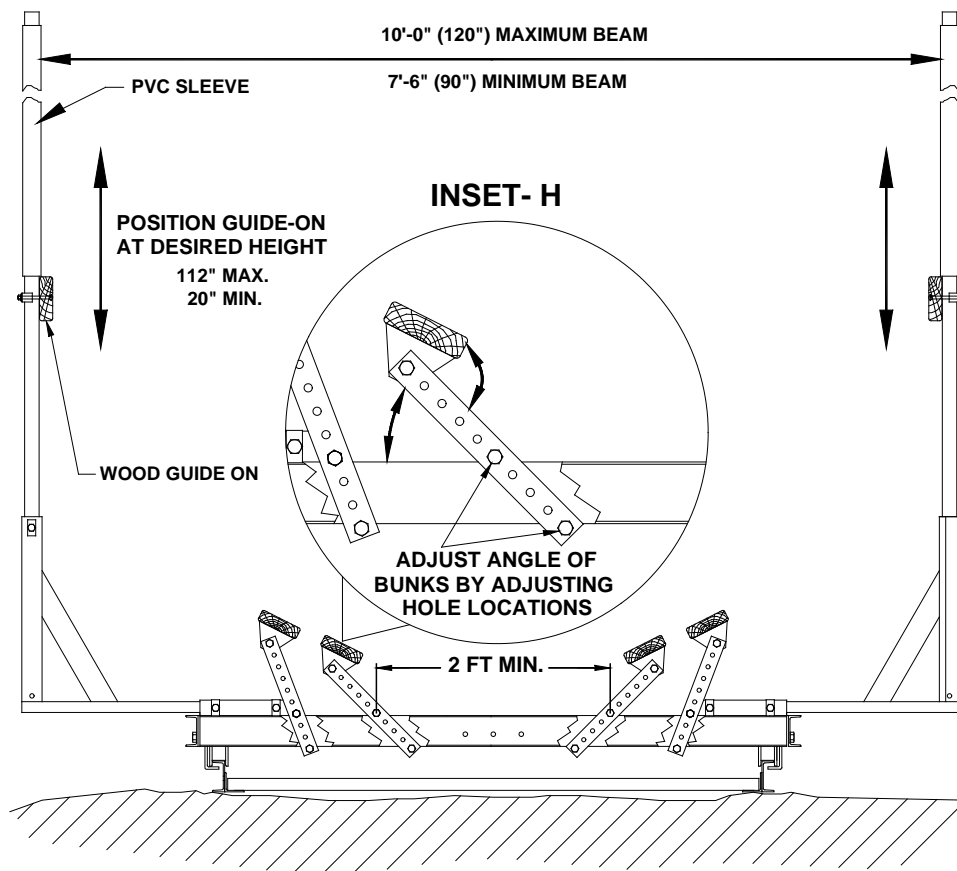

Figure 3-6.
1. Refer to **Figure 3-6**. Position the bow and stern end of carpeted wood bunks a **minimum of two feet apart** and **centered** on the load tubes. The stern end of carpeted wood bunks may be positioned slightly farther apart for improved fitting.